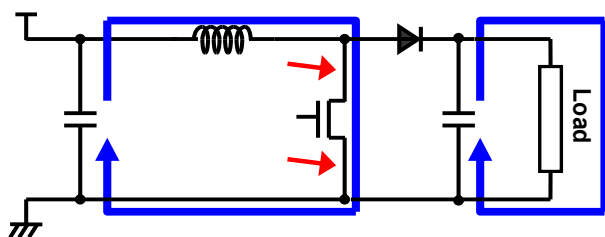

Figure 1. MOSFET-ON
- Figure 1 and Figure 2 show the current pathways of application circuits when MOSFET is turned ON or when MOSFET is turned OFF, respectively. As shown in Figure 1 and Figure 2, the currents flow in the directions of blue or green arrows. The parasitic components, such as impedance, inductance or capacitance, formed in the pathways indicated by the red arrows affect the stability of the system and become the cause of noise. Reduce the parasitic components as much as possible. The current pathways should be made by short and thick wirings.